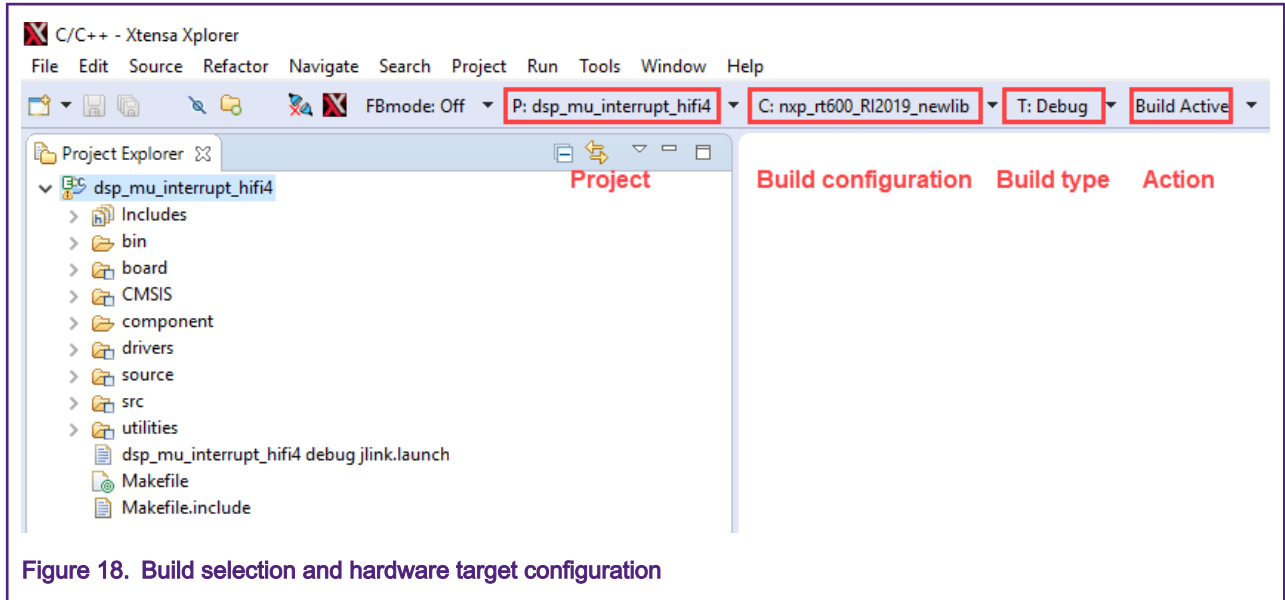

Figure 18. Build selection and hardware target configuration
2. You will see `dsp_hello_world_hifi4` in the Project Explorer. Use the drop-down buttons on the menu bar to make a build selection for the project and hardware target configuration, as shown in Figure 18.